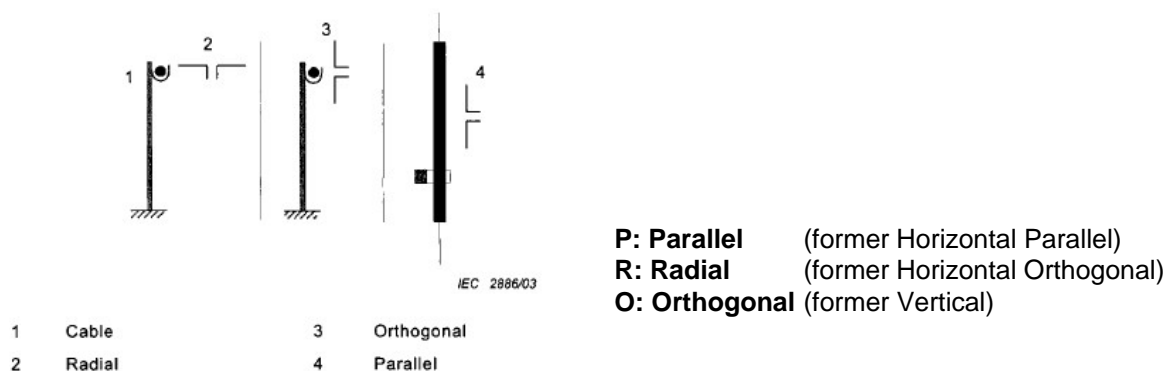

figure 1: spatial orientations of dipoles
- The system loss measurement is made with three different dipole orientations towards the cable (figure 1).